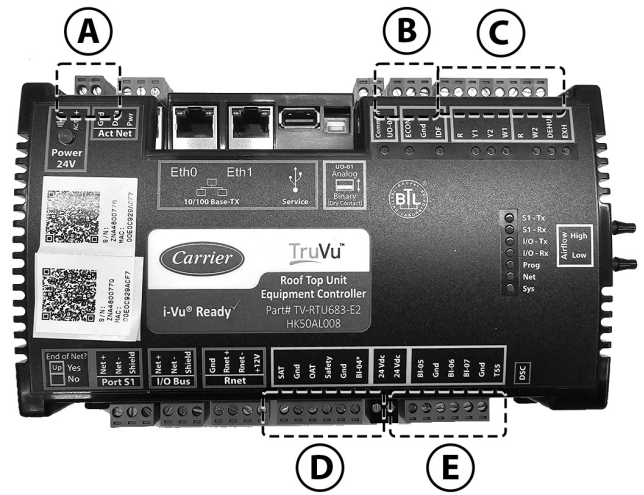

Fig. 29 — Removing the TruVu Bare Connectors
- Remove the 2-pin, 8-pin, both 6-pin and the blue 3-pin connectors from the TruVu Controller and discard them. The main harness already has these connectors pre-wired. (See Fig. 29.)